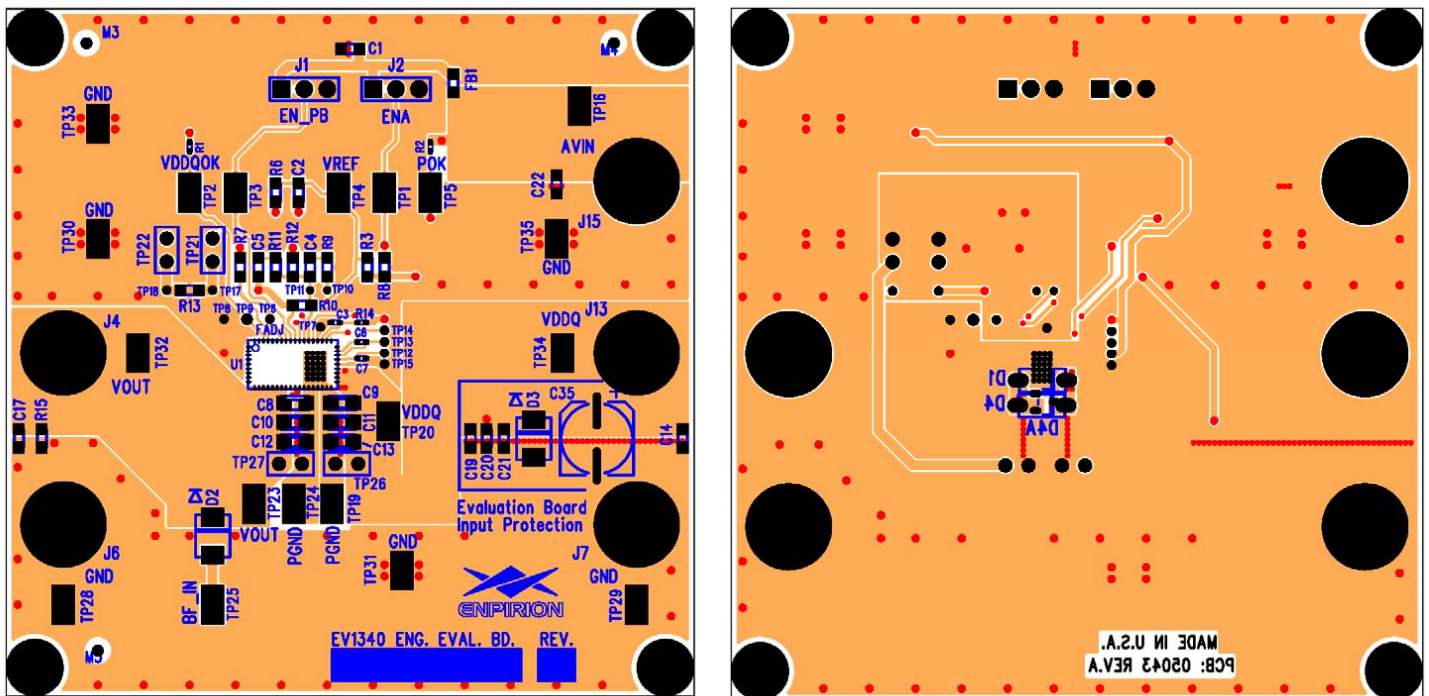

Figure 4: Evaluation Board Top Side and Bottom Side (viewed from the top) Assembly Layers.
STEP 4: Connect the VDDQ Power Supply to the input power connectors, VDDQ (J13) and GND (J7) as indicated in Figure 4 and set the power supply to the desired voltage ($\leq 1.8V$). For VDDQ more than 1.5V, the loop compensation values will have to be adjusted according to the datasheet.
STEP 5: Connect AVIN power supply to the input connectors AVIN (J15) and GND (J7) as indicated in Figure 4 and set the power supply to the desired voltage (3.3V nominal).
STEP 6: Connect the load to the output connectors VOUT (J4) and GND (J6), as indicated in Figure 4.